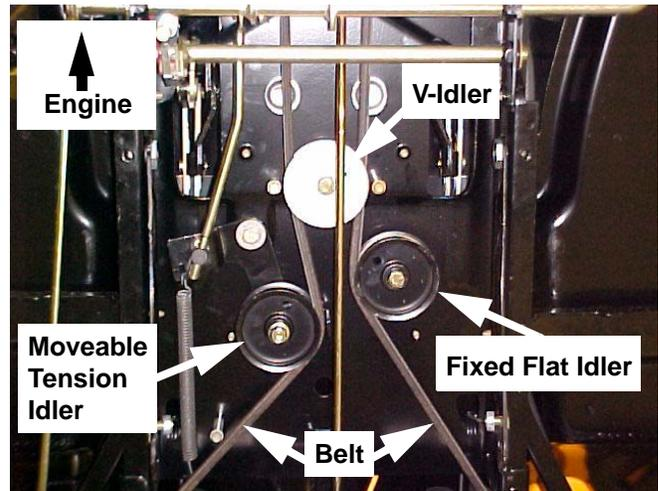

FIGURE 2
8. Check the Fixed Flat Idler, Fixed V-Idler, and Moveable Tension Idler. See Figure 2.